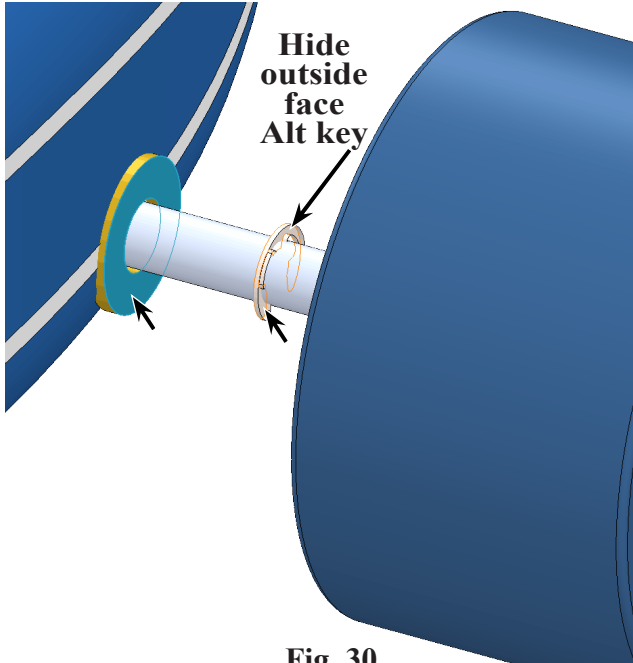

Fig. 30
Step 1. Click side face of Washer<2> and hide outside inside face of E-Clip<3>, click inside face of E-Clip, Fig. 30.